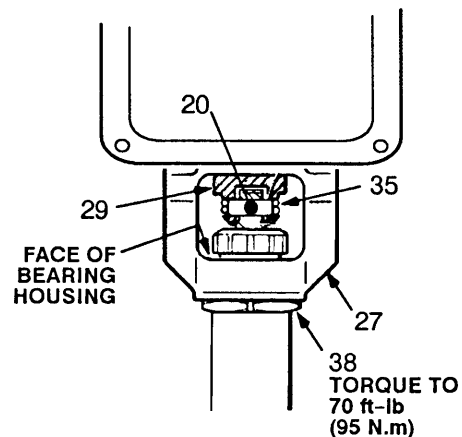

Fig 23
1. Screw the displacement pump about 3/4 of the way into the bearing housing (27). Hold the pin (20) up to the pin hole in the connecting rod assembly (29) and continue screwing in the pump until the pin slides easily into the hole. Back off the pump until the top threads of the pump cylinder are flush with the face of the bearing housing and the outlet nipple (75) is straight back. Push the retaining spring (35) into the groove all the way around the connecting rod. Tighten the locknut (38) very tight—about 70 ft-lb (97 N.m)—with a 2 in. open-end wrench and a light hammer. See Fig 23.
Be sure the retaining spring (35) is firmly in the groove of the connecting rod, all the way around, to prevent it from working loose due to vibration. See Fig 23.